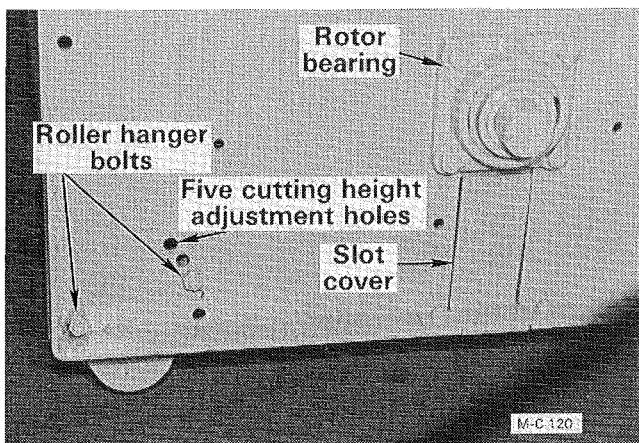

Figure 17
1. There are a series of five holes at each end of the gauge roller, see figure 17. Loosen the bottom capscrew in each gauge roller hanger.